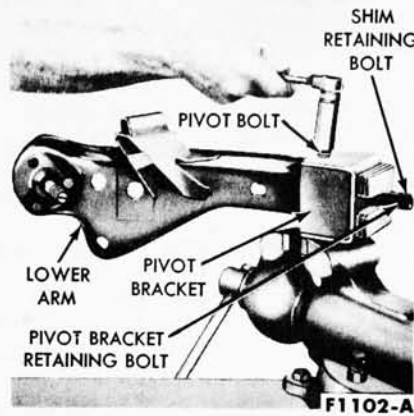

FIG. 10—Lower Suspension Arm Assembly
9. Place the assembly in a vise and remove the nut from the pivot bolt (Fig. 10). Remove the pivot
1. Assemble the pivot bracket to the new lower arm with the pivot bolt, place the assembly in a vise, and install the pivot bolt nut (Fig. 10). Tighten the nut snug. Do not torque it until the lower arm assembly is installed in the car.
2. Slide the shims over the retaining bolts against the pivot bracket (Fig. 10), then mount the lower arm and pivot bracket assembly to the chassis mounting bracket (Fig. 9). Install the pivot bracket and shim retaining nuts.